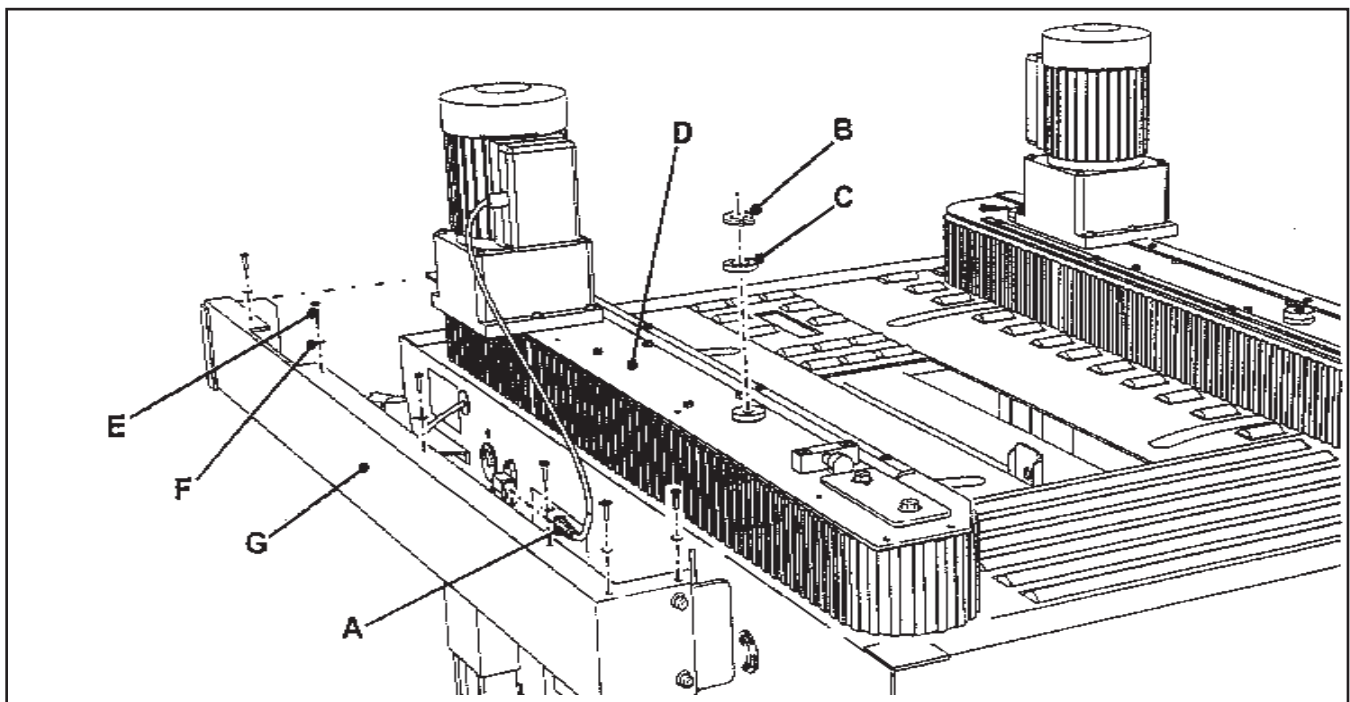

Figure 4-2 – Box Drive Belt (Left Side View – Infeed End)
4. Release switch (A). Knob (B) will lock the upper head assembly in the upper position.
6. Disconnect motor plug (A). **Figure 4-2.**
7. Remove and retain snap rings (B) and special washer (C) from front and rear arm assembly pivots. **Figure 4-2.**
8. Lift side drive assembly (D) up and off arm assembly pivots. **Figure 4-2.**
9. Remove and retain the four screws (E), washers (F) and side cover (G). See **Figure 4-2.**